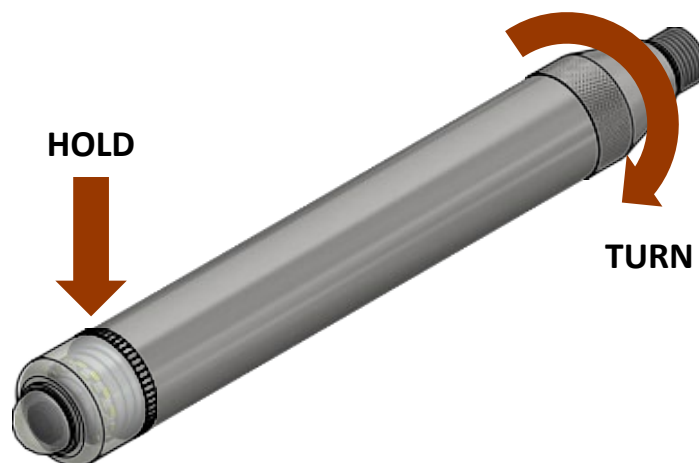

Figure 12
1. Hold the bottom of the camera sonde at the marked location in Figure 12, and unscrew the top sub.